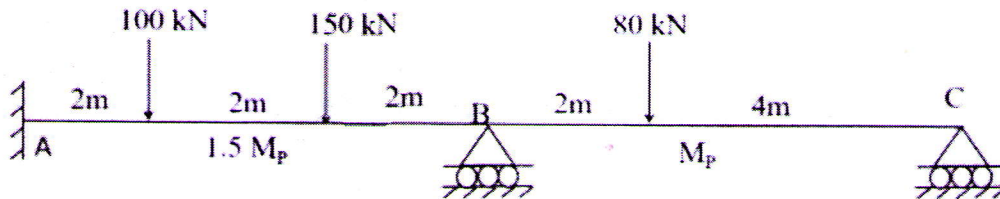

Fig.6
- 9 a) List the assumptions in Plastic theory. (5)
b) Define shape factor and derive the same for a circular section of diameter D. (7)
c) Calculate the plastic moment capacity of the continuous beam shown in Fig.6. (8)